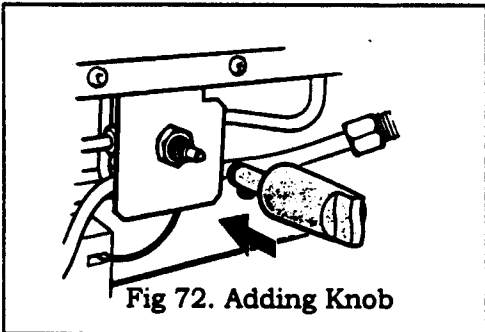

Fig 72. Adding Knob
19.2.6 Replace the selector tap knob with the one supplied with the fascia (Fig 72.)